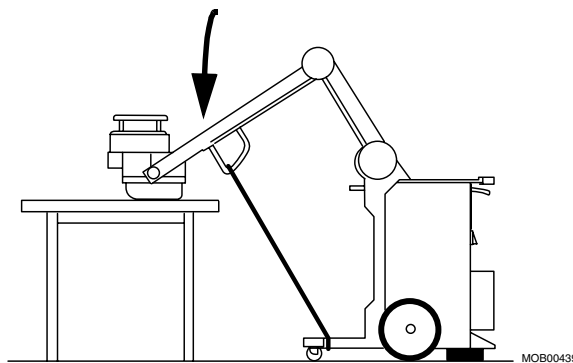

Fig. 44 Remounting the single tank
11. When the correct angle and a suitable position of the upper arm is reached (Fig. 44), secure the belts thoroughly.